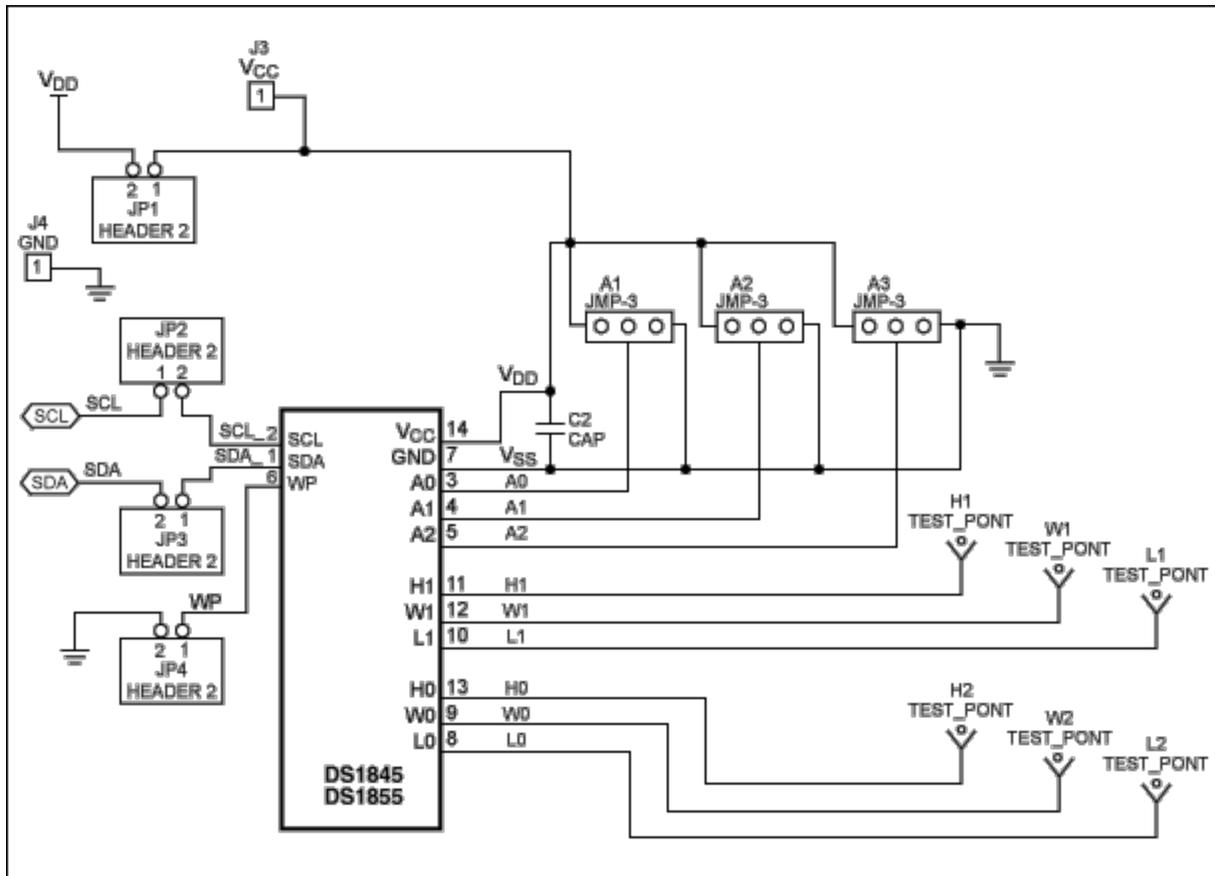

Figure 2. DS1845/DS1855 digital pot connected to PIC controller.
**Figure 2** illustrates the DS1845/DS1855 specific connections for evaluation. Jumpers are provided for selecting address pins, separating the shared VCC (VDD), as well as isolating SDA and SCL.